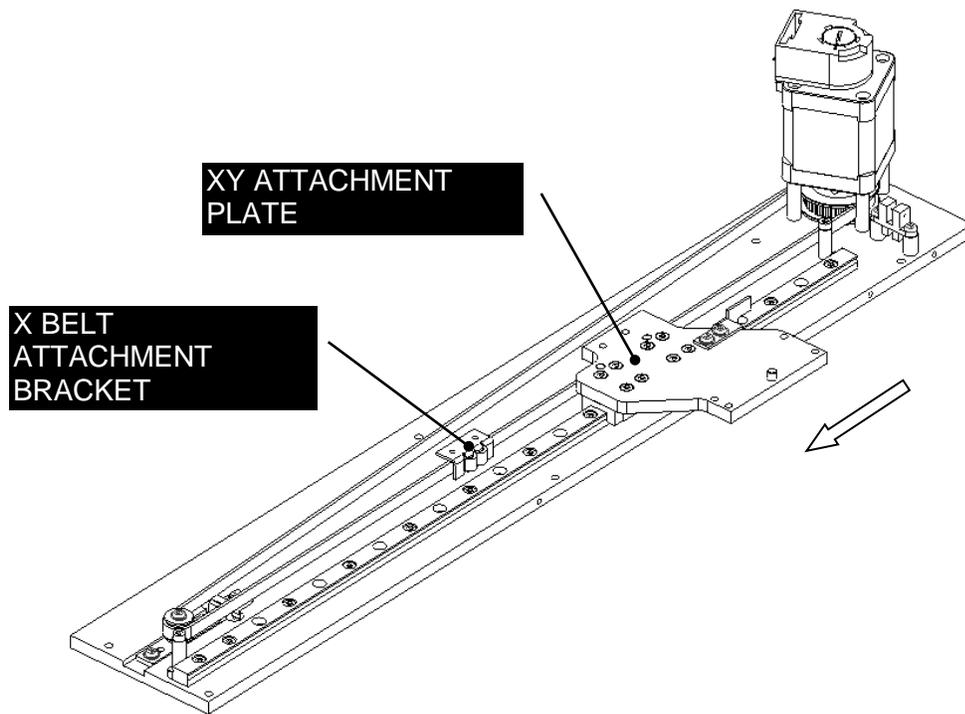

Figure 9-7: XY Attachment Bracket
2. Loop the free end of the belt around the idler bearings (Figure 9-7).